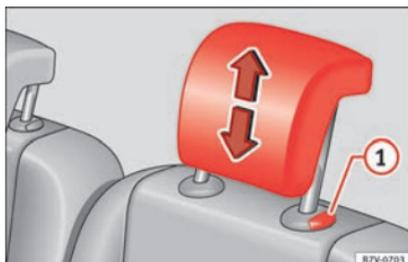

Fig. 153 Fitting the head restraints in the second or third row of seats
- Pull out the head restraint »» Fig. 153 ① with the button pressed.